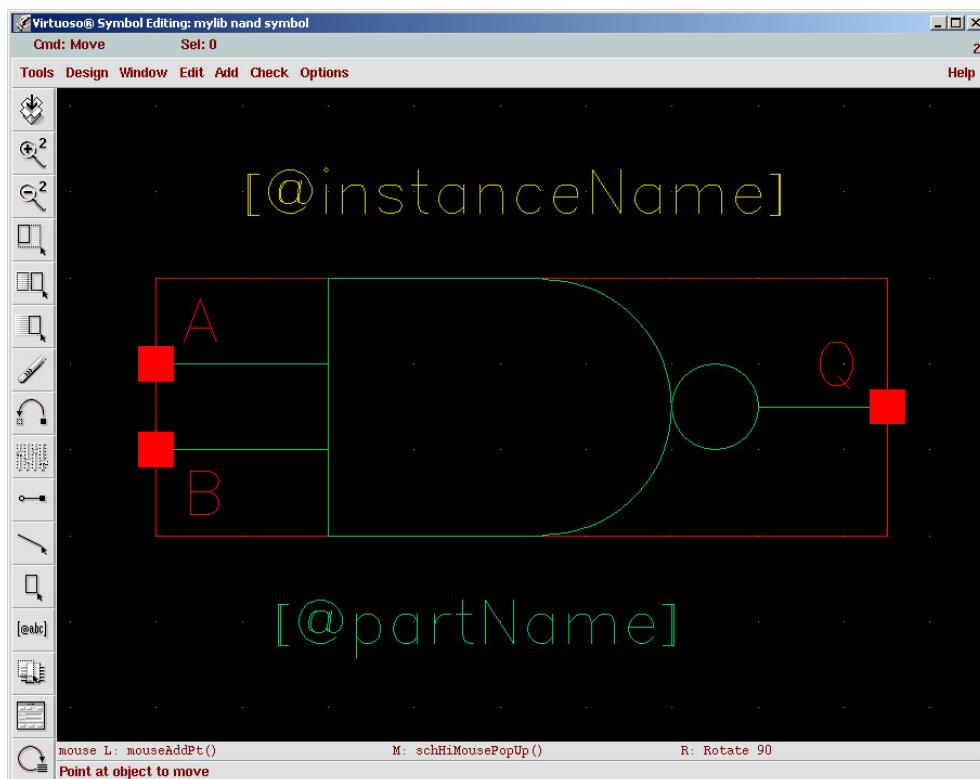

Figure 52. NAND Symbol
4. Use the simple drawing commands to make a NAND symbol as shown in Figure 52. Use **Add**, then **Shape** for objects such as circles.